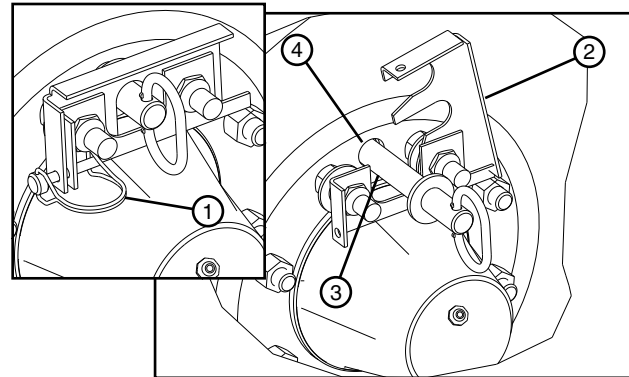

Figure 54-1 1. Lynch Pin
5. Leave the torque pin installed in the hub torque pin receiver on the pivot point cart wheel so that this wheel will not rotate (fixed). See figure 54-1.
6. Remove the torque pin from the hub torque pin receiver on the other cart wheel so that this wheel will rotate. See figure 54-1.